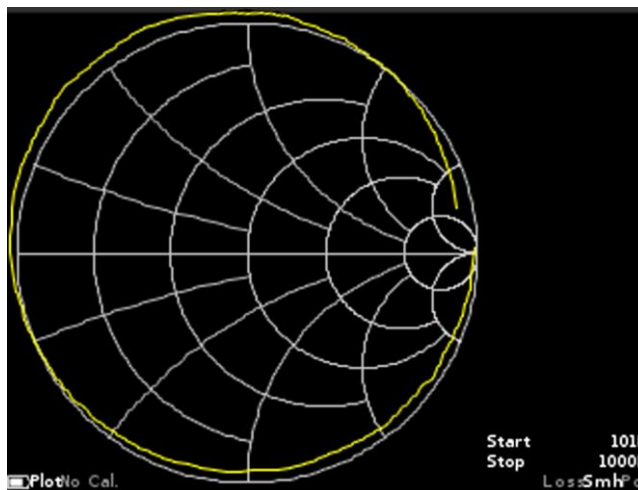

Figure 9.23 – Offset calibration plane by additional cable
9.9.2. Connect an additional (transition) cable of small length with a total signal attenuation of not more than 1 dB. In the Smith chart and the polar diagram, a circle with a minimum radius is converted to an arc (figure 9.23).